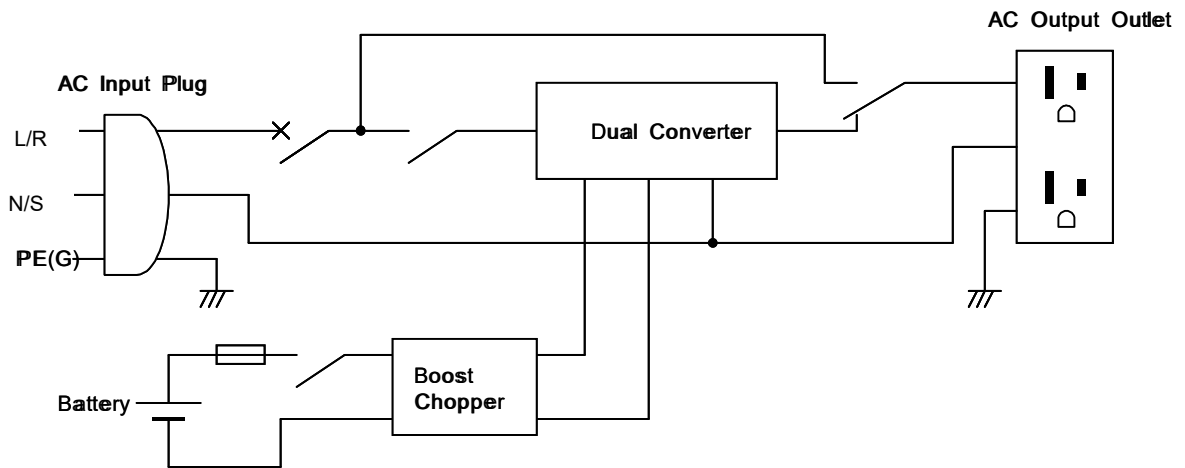

Figure 1 - Schematics of Model M-UPS010AD1B-U, Models M-UPS015AD1B-U and M-UPS015AD1S-U
- Schematics are shown in Figures 1 and 2.